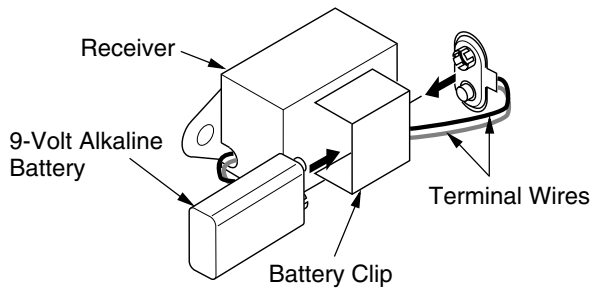

Figure 37 - Attaching Alkaline Battery to Receiver
3. Locate the battery clip mounted on the back of the receiver. Slide a 9-volt alkaline battery (not included) through the clip (see Figure 37).
5. Remove wire from TH to TPTH on control valve (see Figure 37).